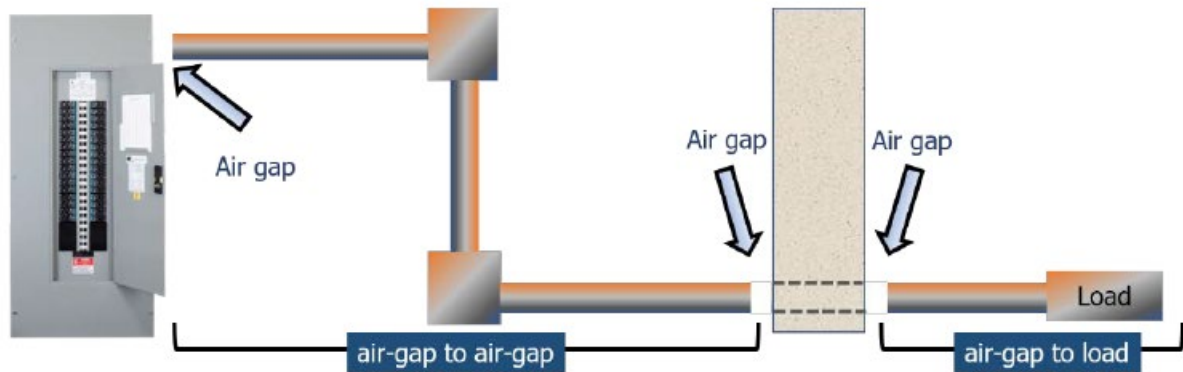

Figure 2 Air Gapping for Conduit Passing through Walls
6. Conduit to be demolished by subcontractors must be 100 percent visible within the demolition area. SLAC electrical workers will create additional air gaps for conduit segments that pass through walls, floors, or ceilings, or behind obstacles. (See Figure 2.)